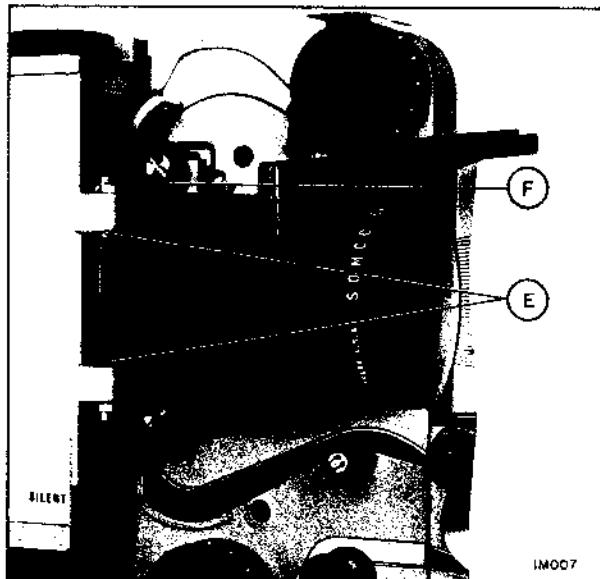

Figure 8
1. To remove lens gate, loosen locknuts (F) and back out pivot screws (E) to free gate. (Figure 8.)